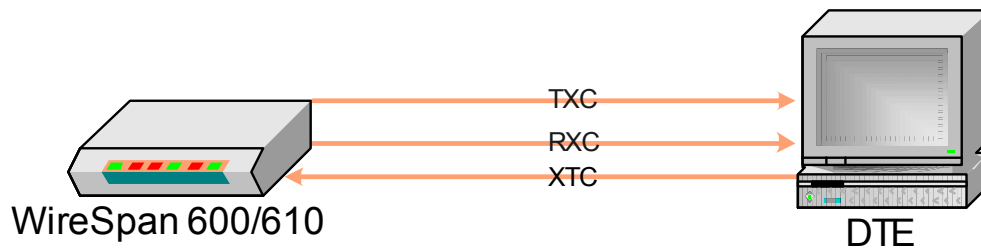

Figure 1-3 DCE Description
- **DCE** – WireSpan 600 provides transmit and receive clocks for the user's equipment connected to the data port. And accepts XTC clock from the equipment. *Figure 1-3* shows the flow of timing signals through the user's data port in the DCE mode.